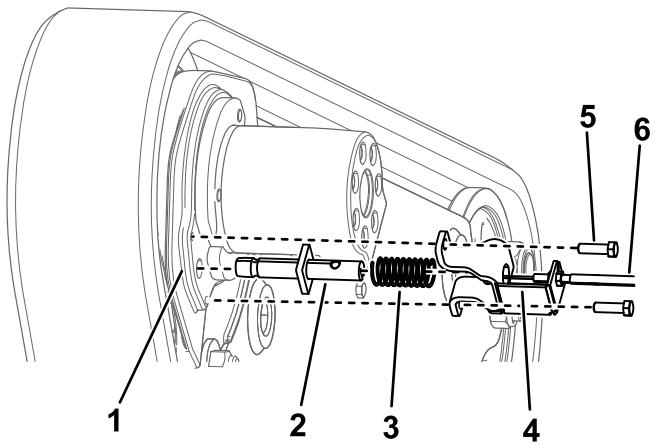

Figure 8
- Remove and retain the 2 bolts securing the brake mount to the track motor casting (Figure 8).
- Loosen the nuts securing the brake cable to the brake mount (Figure 8). Remove the brake cables.
- Remove and retain the compression spring (Figure 8).